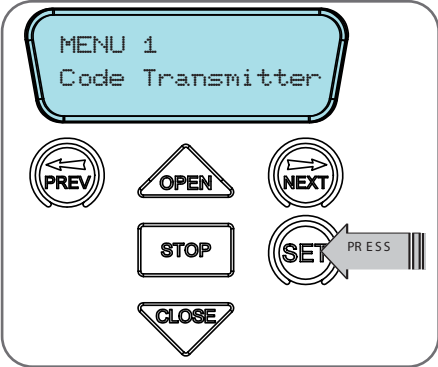

Fig F.5
- a. Press NEXT to navigate to Menu 1 "Code Transmitter" (**Fig. F.5**).